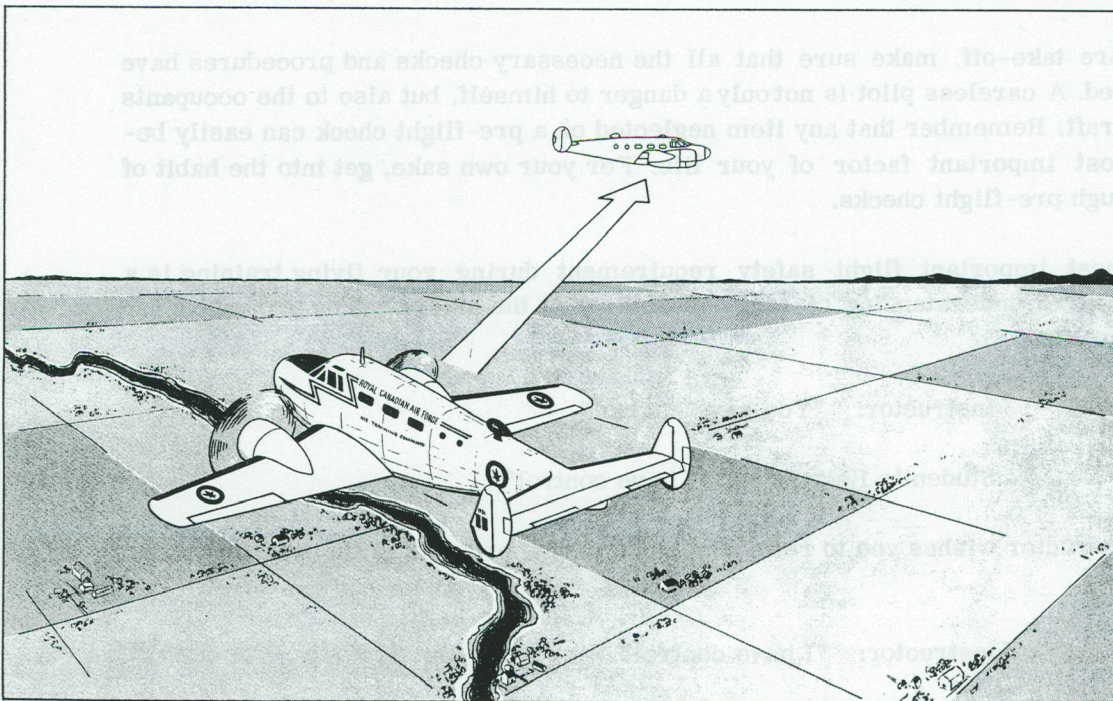

Figure 1. Clock-elevation System
(4) Remember, there is a blind spot beneath you. NEVER ASSUME THAT OTHERS SEE YOU!
(5) Your instructor will explain the clock-elevation system of pointing out other aircraft. An example of an aircraft at "2 o'clock high" is shown in Figure 1.